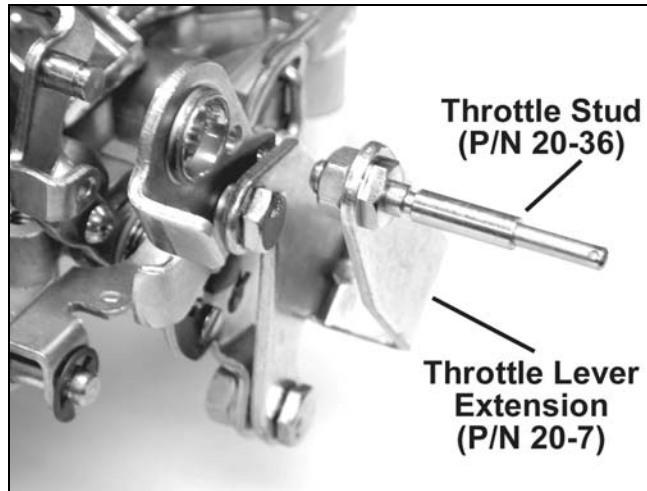

Figure 1—Chrysler applications
1. Unless you are replacing an existing Holley carburetor (which already has a lever extension arm), you may need to purchase and install a throttle lever extension (Holley P/N 20-7) on the carburetor. Remove the throttle stud and nut from the original carburetor. You can purchase a new stud from your Holley dealer (Holley P/N 20-36). Install the stud in the throttle extension lever (Figure 1).